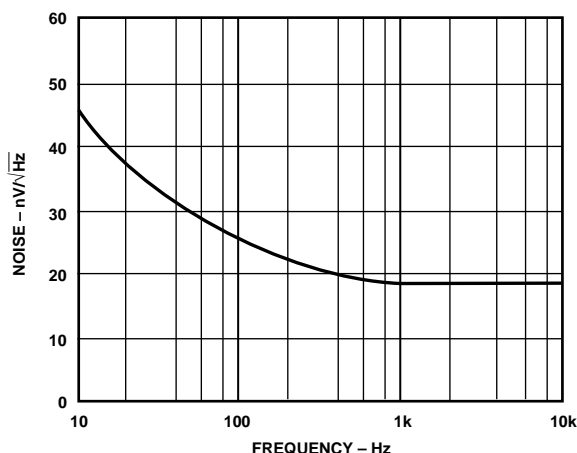

Figure 11. Input Noise vs. Frequency
**Input Noise vs. Frequency:** Voltage noise referred to the input is dependent on gain and signal bandwidth. Figure 11 illustrates the typical input noise in  $nV/\sqrt{Hz}$  of the AD210 for a frequency range from 10 to 10 kHz.